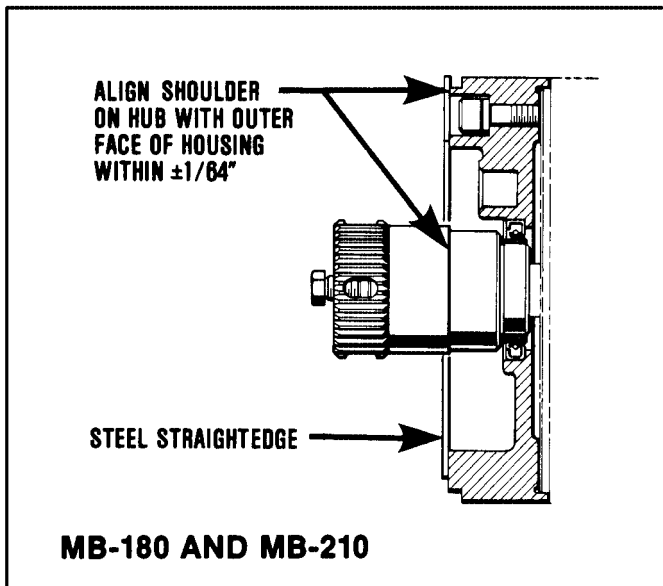

Figure 3-2
2. Tap the hub lightly to align the proper shoulder of the hub with the housing face (straightedge). This alignment should be within plus or minus  $1/64$ " (See Figure 3-2).